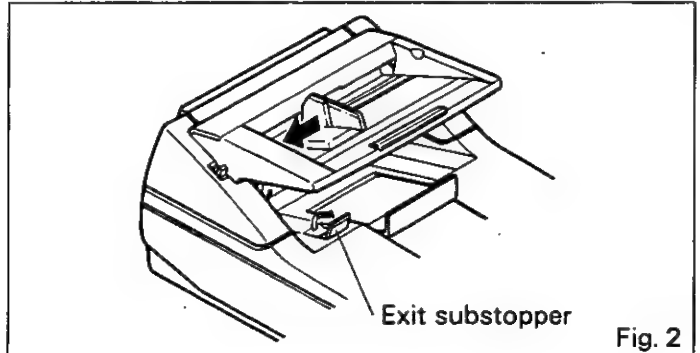

Fig. 2
- When scanning narrow documents as shown below, pull up the exit substopper. (See fig. 2.)